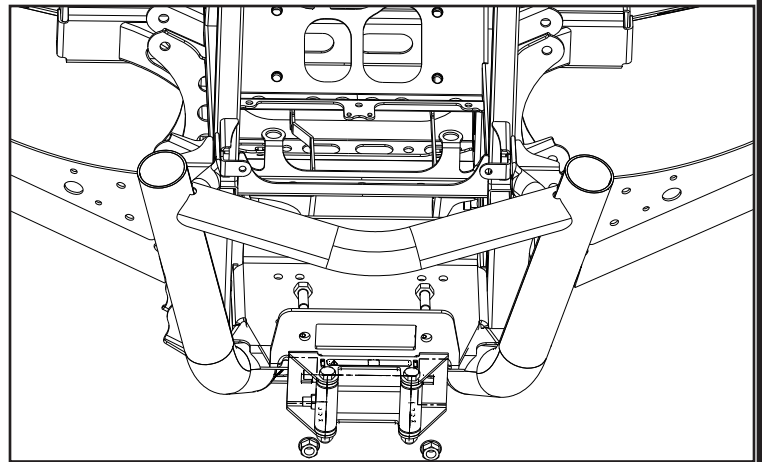

Figure 2
5. Place the roller fairlead into position, shown in Figure 2 and attach to the front of the mounting plate. Use hardware found in the winch hardware pack.